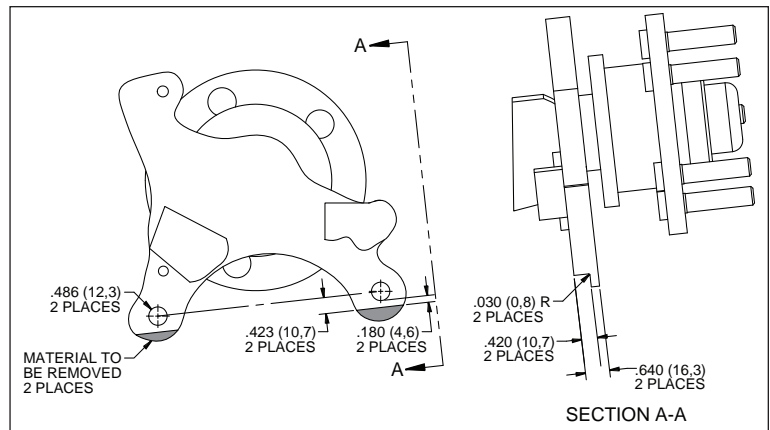

Figure 3. Spindle Modifications
- There are spindle modifications that need to be performed before installation of the Wilwood caliper bracket. Please reference Figure 3, page 4. These modifications should be performed by a qualified machinist.
- These modifications should be performed by a qualified machinist. Refer to Figure 3, right. Only one view of the spindle is shown, but the modifications need to be performed on both spindles.
- The inboard side of the OE caliper mounting tabs need to be modified for proper installation of the new Wilwood caliper mounting bracket. Referring to the dimensions in Figure 3, remove the shaded material from both mounting tabs. Be sure the area is free of sharp edges and burrs. Remove only the material indicated to clear the new caliper bracket.